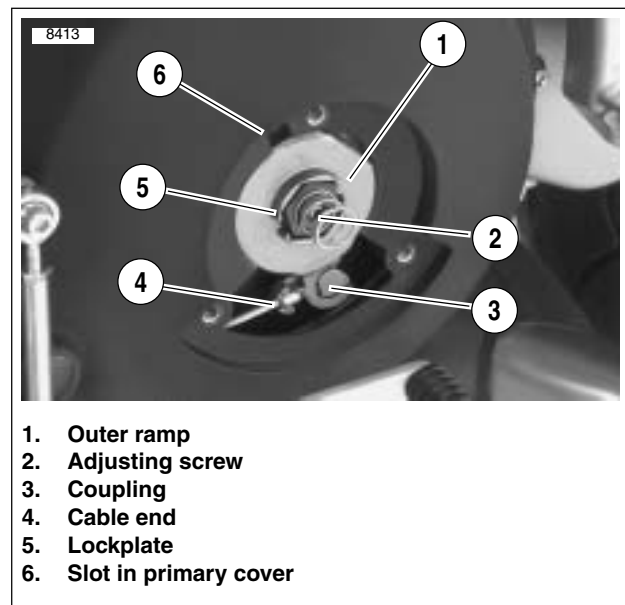

Figure 6-8. Nut and Outer Ramp
2. See Figure 6-8. Install ramp assembly.